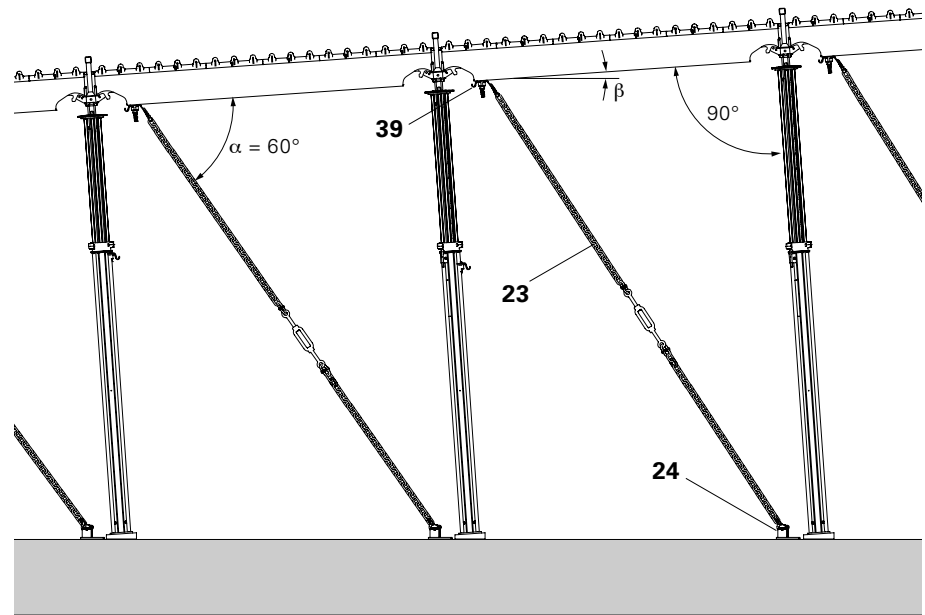

Fig. A11.01
The Main Beam SLT must be positioned in the direction of the slab inclination. Align Props with Drophead SFK at right-angles to the Main Beams SLT 225. The use with Prophead SSK is also possible. (Fig. A11.01)
2. Mount Base Plate (24) on a sufficiently load-bearing surface area, e.g. using PERI Anchor Bolt 14/20x130, item no. 124777. Take into consideration the Technical Data Sheet!
3. Screw on Tension Sleeve SAO (39) to Main Beam SLT.
4. Attach Anchor Chain (23) to Tension Sleeve SAO (39).
6. Pretension Anchor Chain. (Fig. A11.01)